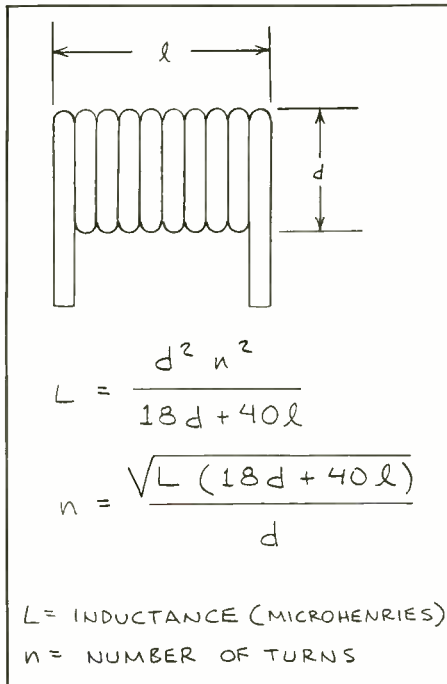

Fig. 1. Coil formulas from the ARRL Handbook.
One of the best references is *The 1989 ARRL Handbook for the Radio Amateur*. This must-have book, a new edition of which is published annually by the American Radio Relay League, belongs in every electronics experimenter's library. Among other things, it gives several formulas for winding coils. For a single-turn, air-wound coil, the number of turns (n) required to give a specified impedance (L) is calculated using the formula given in Fig. 1.
Many different forms can be used for coils that require them. The main requirements are that the form be a good insulator and that it be sturdy enough to support the coil under any mechanical stresses that might be encountered in the environment in which the circuit containing the coil is used. Very small coils can be wound on short lengths of plastic soda straw, as illustrated in Fig. 1. I've often used this method to make the coils for tiny micro-power r-f transmitters. Larger coils can be wound around standard coil forms, plastic pill containers and even sections of plastic tubing.